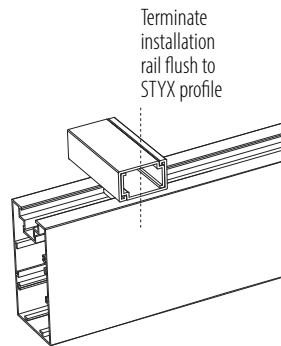

Figure 4c
c. Position the first STYX profile to sit on the left-most Quick Lock. Ensure the end of the STYX profile is at the desired location. (Figure 4c)